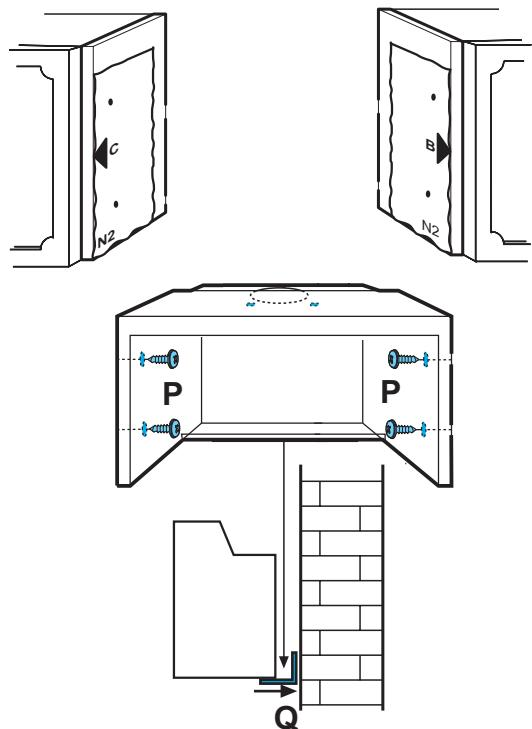

Fig. 12
- Fasten the cooker hood with 4 screws (Fig. 12, P), place the connection ring and discharge pipe (or deflector if supplied) to the cooker hood outlet (see “Use” section), mount the lower bracket (Fig. 12-13, Q) to the cooker hood with two screws and plastic washers (Fig. 13, T).